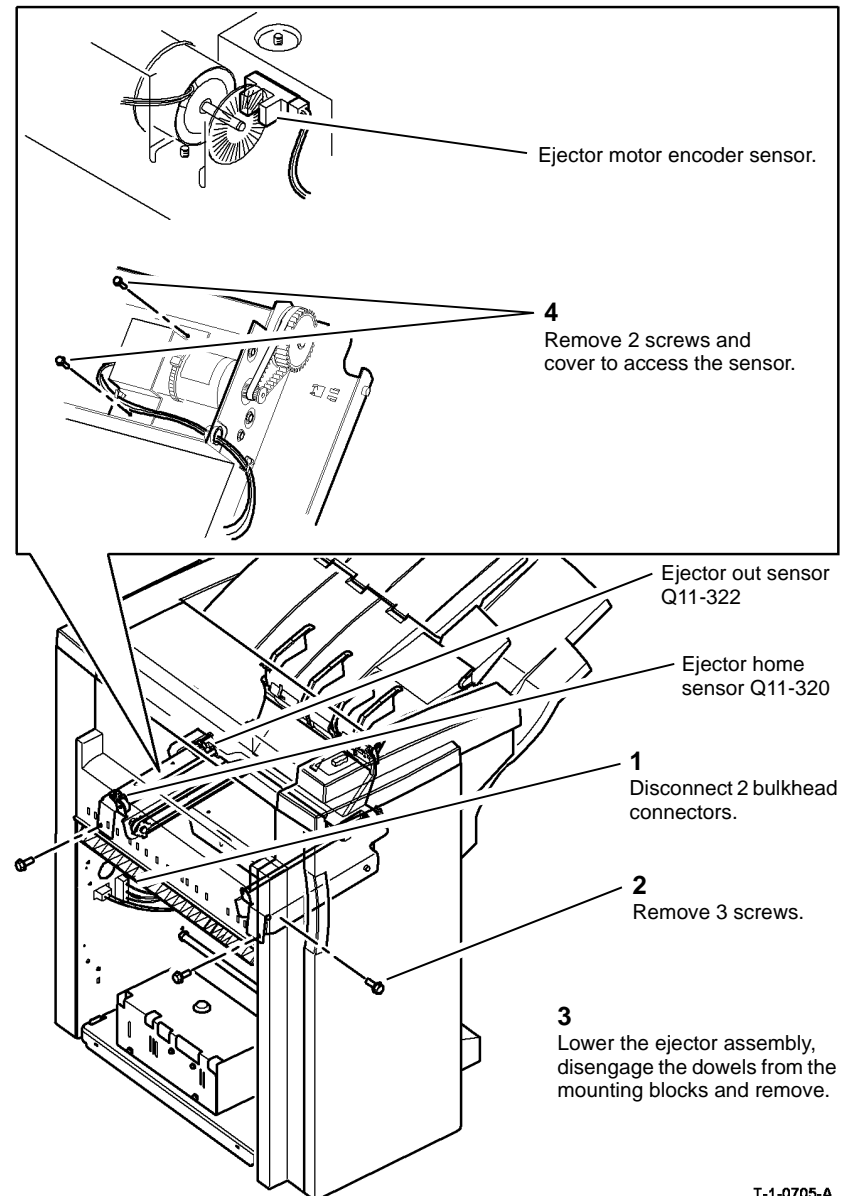

Figure 1 Removing the ejector assembly
3. Remove the ejector assembly, Figure 1